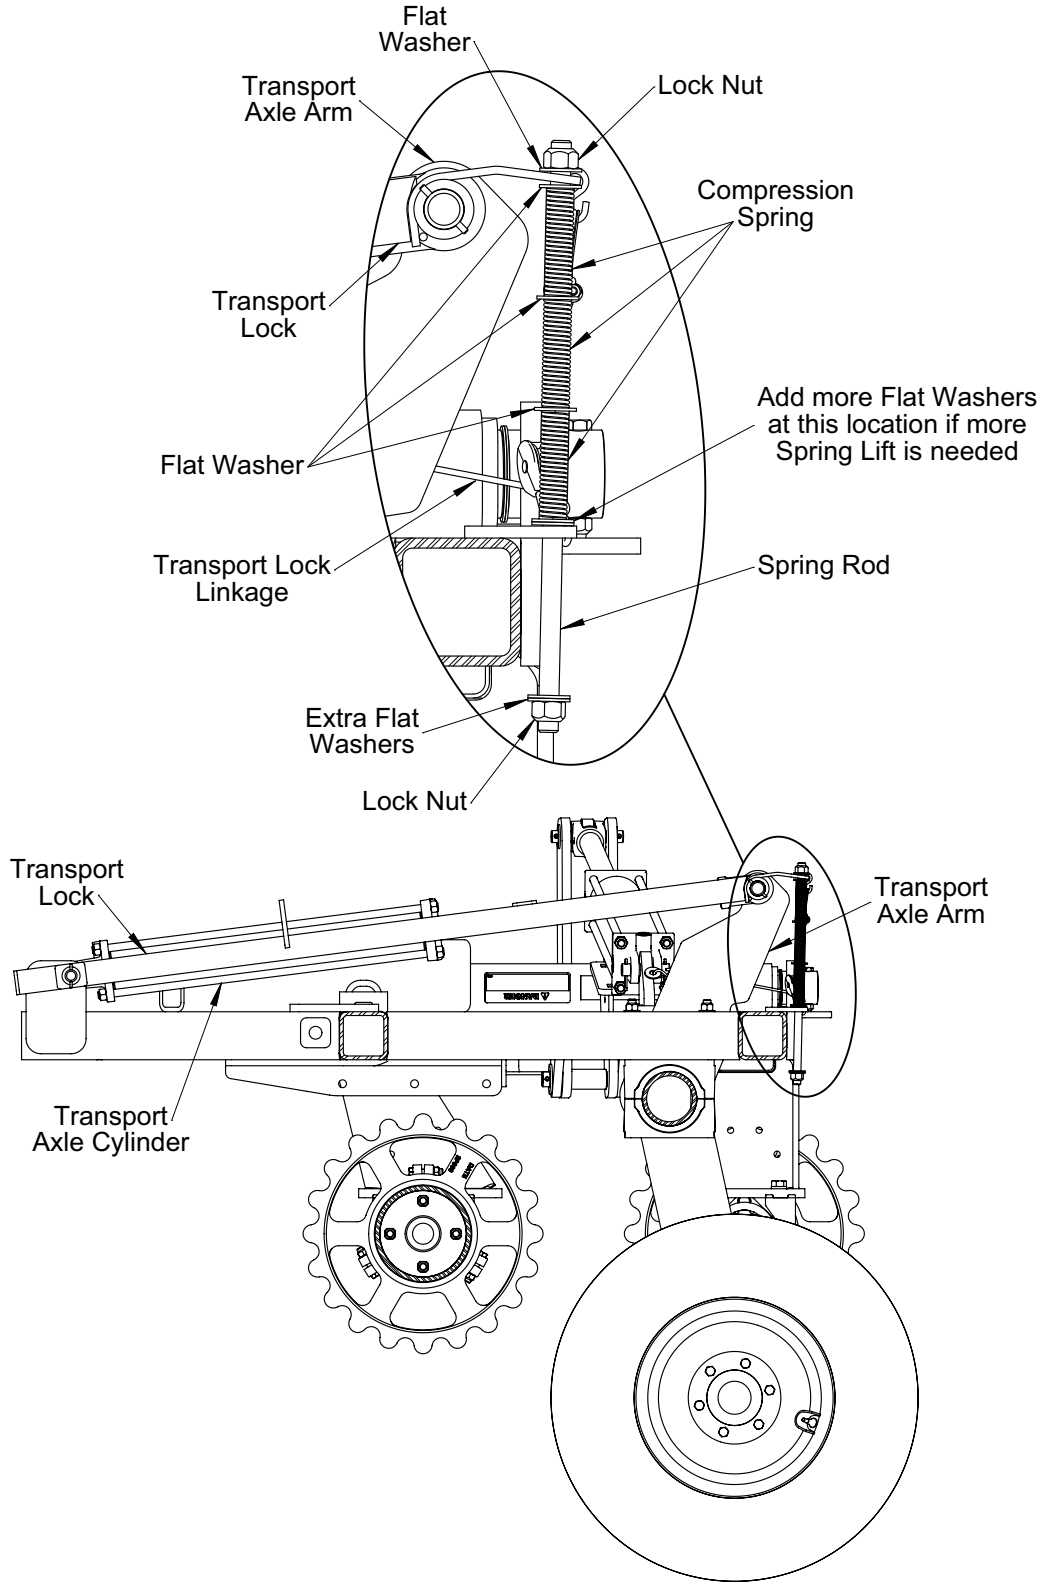

Figure 3-6: Transport Lock Locked Position
5. Fully extend the hydraulic lift cylinders, and retract the wing fold cylinders. Transport lock will engage when lift cylinder is extended. See **Figure 3-6**.
Be sure Transport Lock is either locked or unlocked. **See Figures 3-6 and 3-7.**
Actuate the tractor lever to unfold wings completely, slackening the cable/spring linkage. Reverse hydraulic lever to extend the Transport Axle Cylinder completely allowing the pair of compression springs to push the Transport Lock up and out of the way of the Transport Axle Cylinder. If more spring lift is needed add washers to the bottom of the springs. **See Figure 3-6.** Retract the Transport Axle Cylinder lowering the machine to the ground. The Tire and Wheel Assemblies should be off the ground approximately 4 inches. Continue holding the tractor lever until the Wing Cylinders are completely extended for field operation.